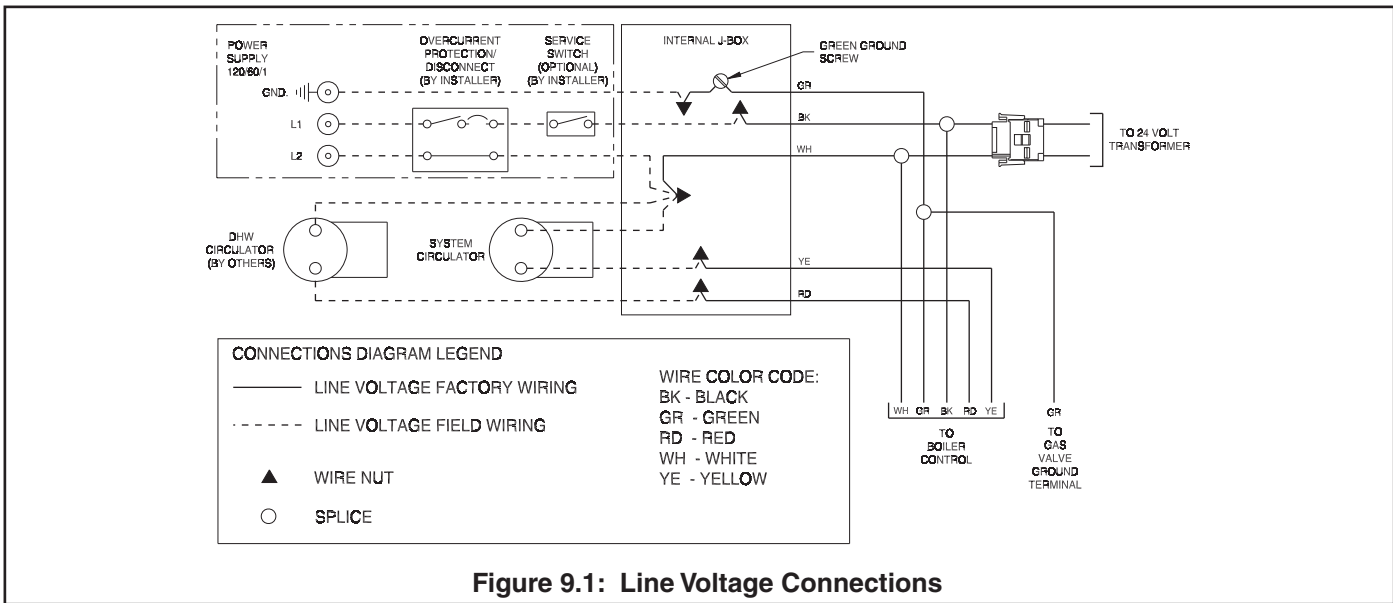

Figure 9.1: Line Voltage Connections
1. Line Voltage (120 VAC) Field Connections – See Figure 9.1 for line voltage connections. Provide a dedicated circuit for the boiler of 15A or greater. A service switch is recommended and is required by many local codes. Locate this switch in accordance with local codes or, in the absence of any, in a location where it can be safely accessed in an emergency involving the boiler. All 120VAC connections to the boiler itself are made inside the junction box in the boiler vestibule. 120VAC connections are: